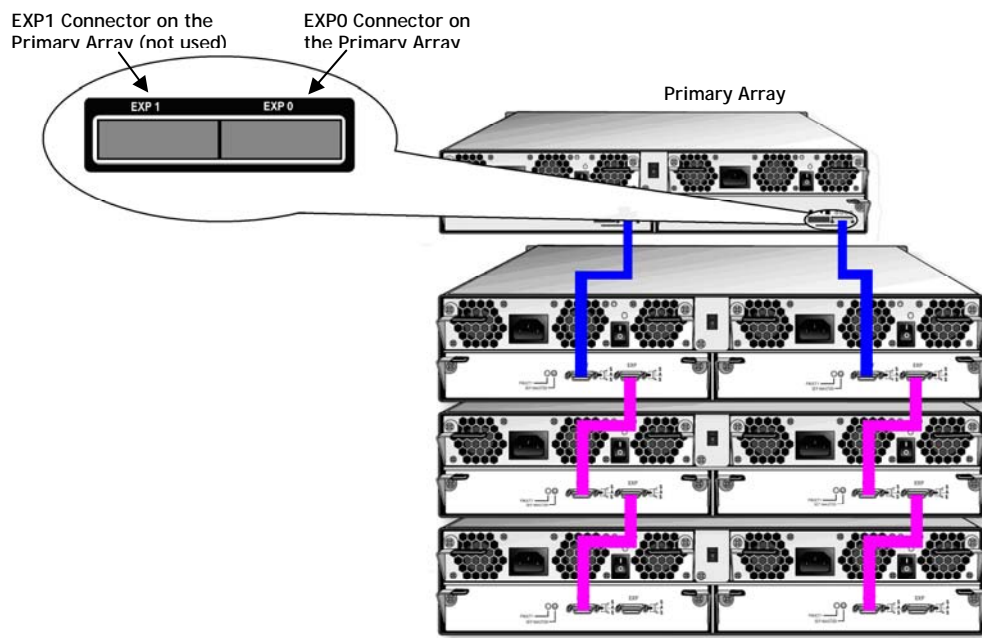

Figure 4-6. Connecting the iS512-SX Expansion Arrays to the iS512-04 Primary Array
To connect the first iS512-SX expansion array to the iS512-04 primary array, use the following procedure (and refer to Figure 4-6).
4. If your system is equipped with redundant controllers, repeat the above steps for the redundant controllers as shown in Figure 4-6.